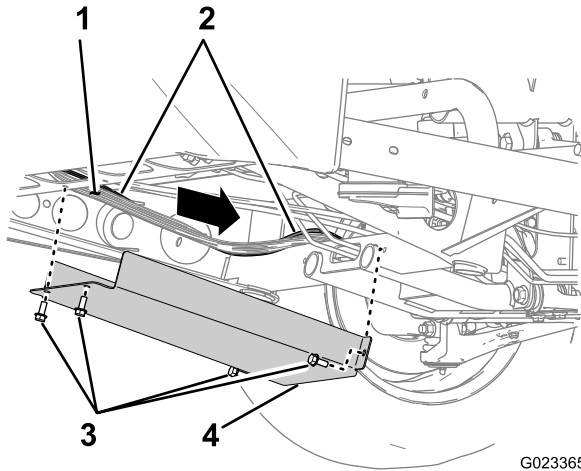

Figure 25
2. Remove the 4 bolts that secure the lower cover to the machine (Figure 25).
3. Route the wiring harness of the kit along the rear-main harness of the machine and rearward over the cross channel of the frame as shown in Figure 25.
4. Install the lower cover with the 4 bolts that you removed in step 2 (Figure 25).